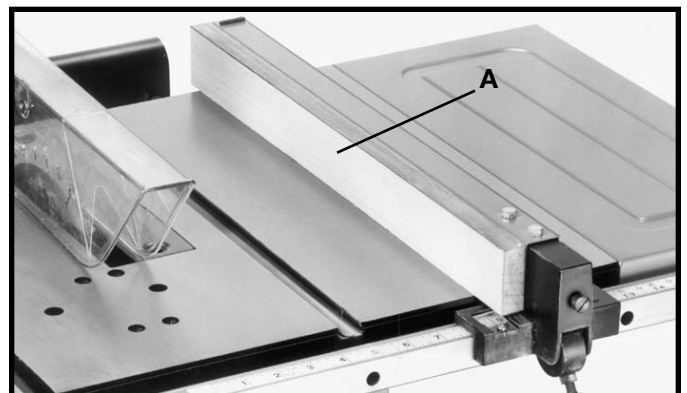

Fig. 59
It is necessary when performing some special operations to add wood facing (A) Fig. 59, to one or both sides of the rip fence, as shown. The wood facing is attached to the fence with wood screws through the holes in the fence. 3/4 inch stock is suitable for most work although an occasional job may require 1 inch facing.